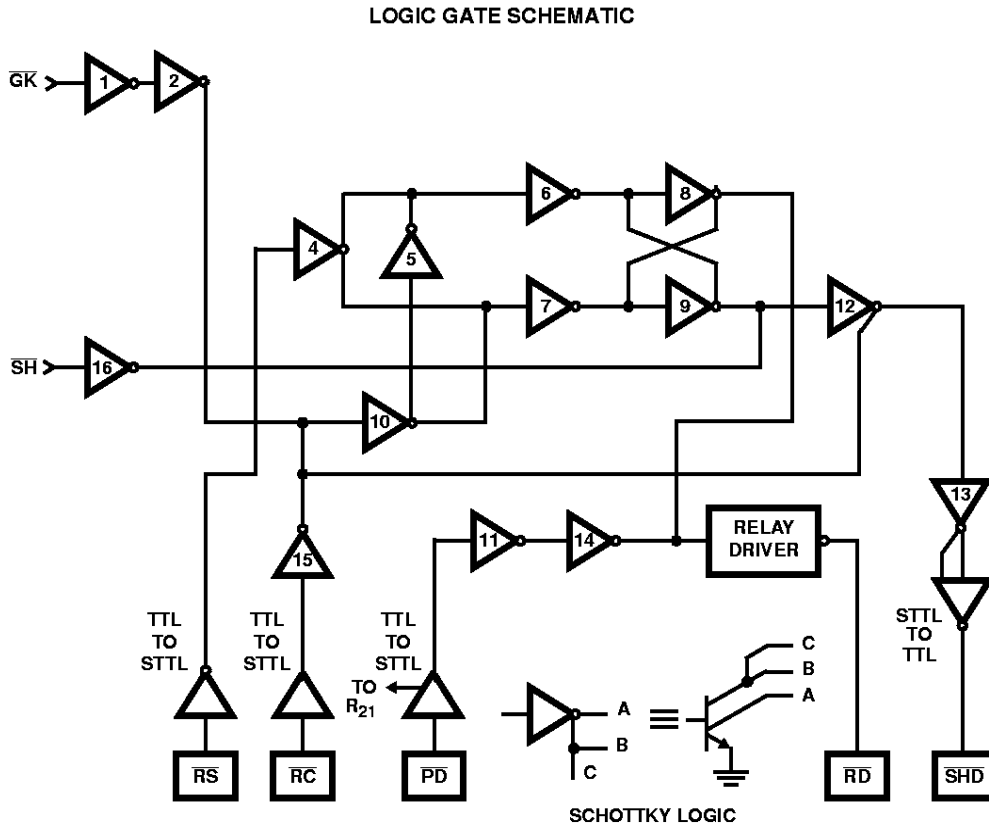

FIGURE 9. LOGIC NETWORK
Figure 9 is a schematic of the combination logic within the network. The external inputs \overline{RC} (Relay Control) and \overline{PD} (Power Denial) allow the switch controller to ring the line or deny power to the loop, respectively. The Ring Synchronization input (RS) facilitates switching of the ring relay near a ring current zero crossing in order to minimize inductive kick-back from the telephone ringer.